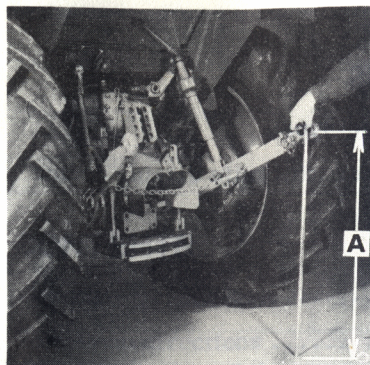

Fig. 1
- Measure the distance between the hole in one of the lower links and the floor, dimension A in Fig. 1, and make a note of it.